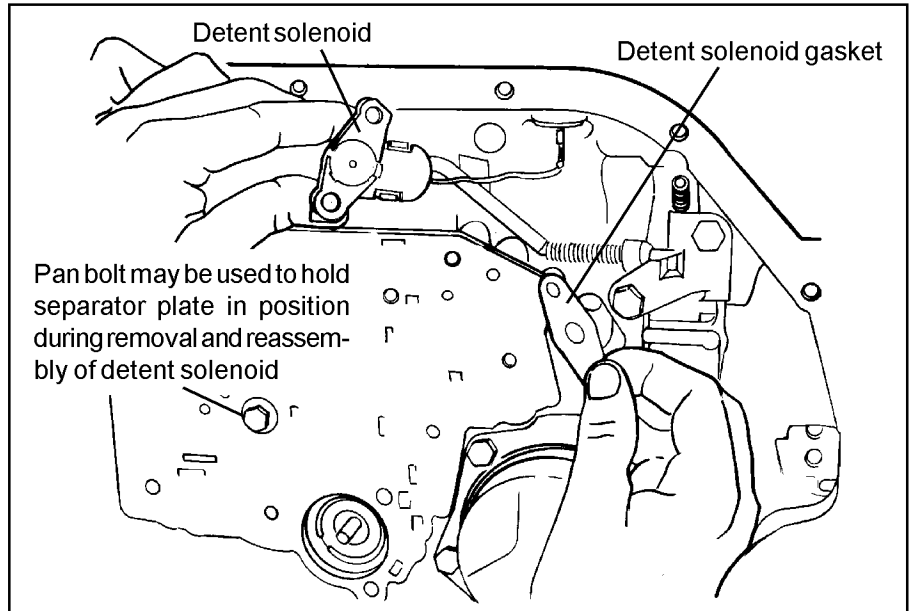

Figure 7
in place. **STEP 5.** Use one (1) pan bolt to hold the separator plate in place while removing the solenoid. Remove the two bolts holding the detent solenoid (See Fig. 7) and allow the solenoid to hang by its wire. Remove the pan bolt and carefully lower the separator plate. Be careful not to loose the six (6) 1/4" steel check balls that are on top of the separator plate. The check balls will be
STEP 11. Place upper valve body gasket (has "C" punched in it) on to the **B&M** separator plate (use grease or petroleum jelly to hold it in place). Install the plate and gasket against the case and use a clean pan bolt to hold it in position for now (See **Fig. 7**).